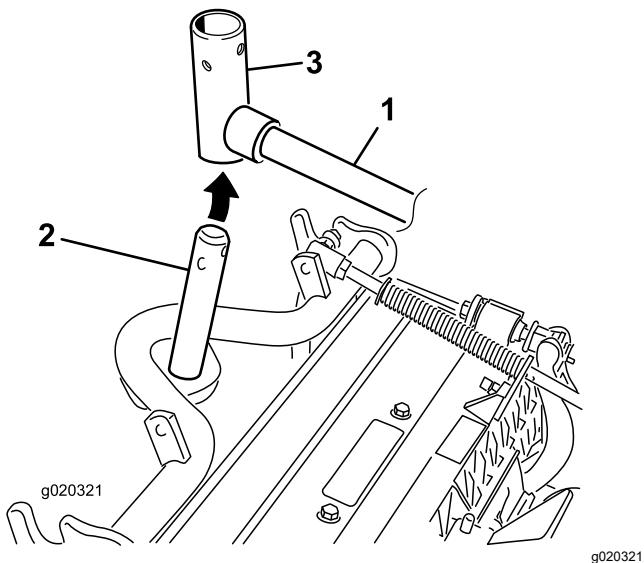

Figure 10
3. For the front cutting units, slide a cutting unit under the lift arm while inserting the carrier frame shaft up into the lift-arm pivot yoke (Figure 10).
- 2. Insert the lift-arm yoke onto the carrier frame shaft (Figure 10).